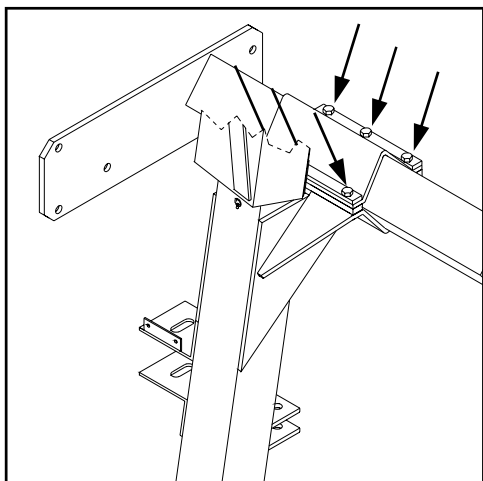

FIG 4.3
3. Loosen the leg mounting bolts on both the front and rear legs on one side of the detasseler only (fig. 4.3).